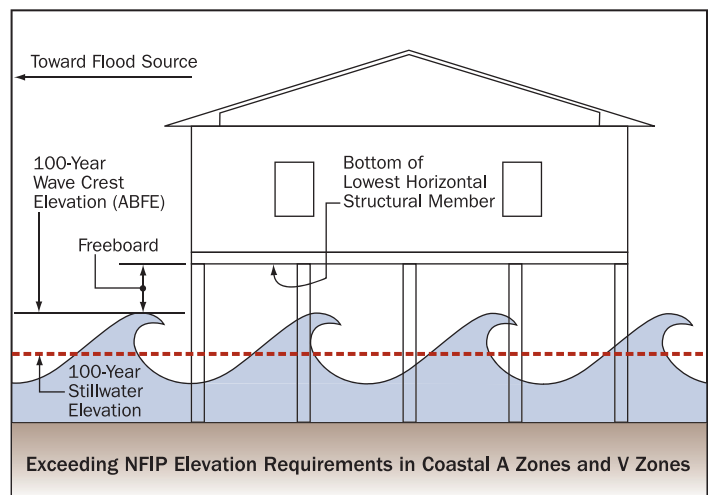

Figure 7. Recommended construction in Coastal A Zones and V Zones.
- In flood Zones V and A, use a DFE that results in freeboard (elevate the lowest floor above the BFE) (see Figure 7).
- In an A Zone subject to waves and erosion (i.e., a Coastal A Zone), use a pile or column foundation (see Figure 7).